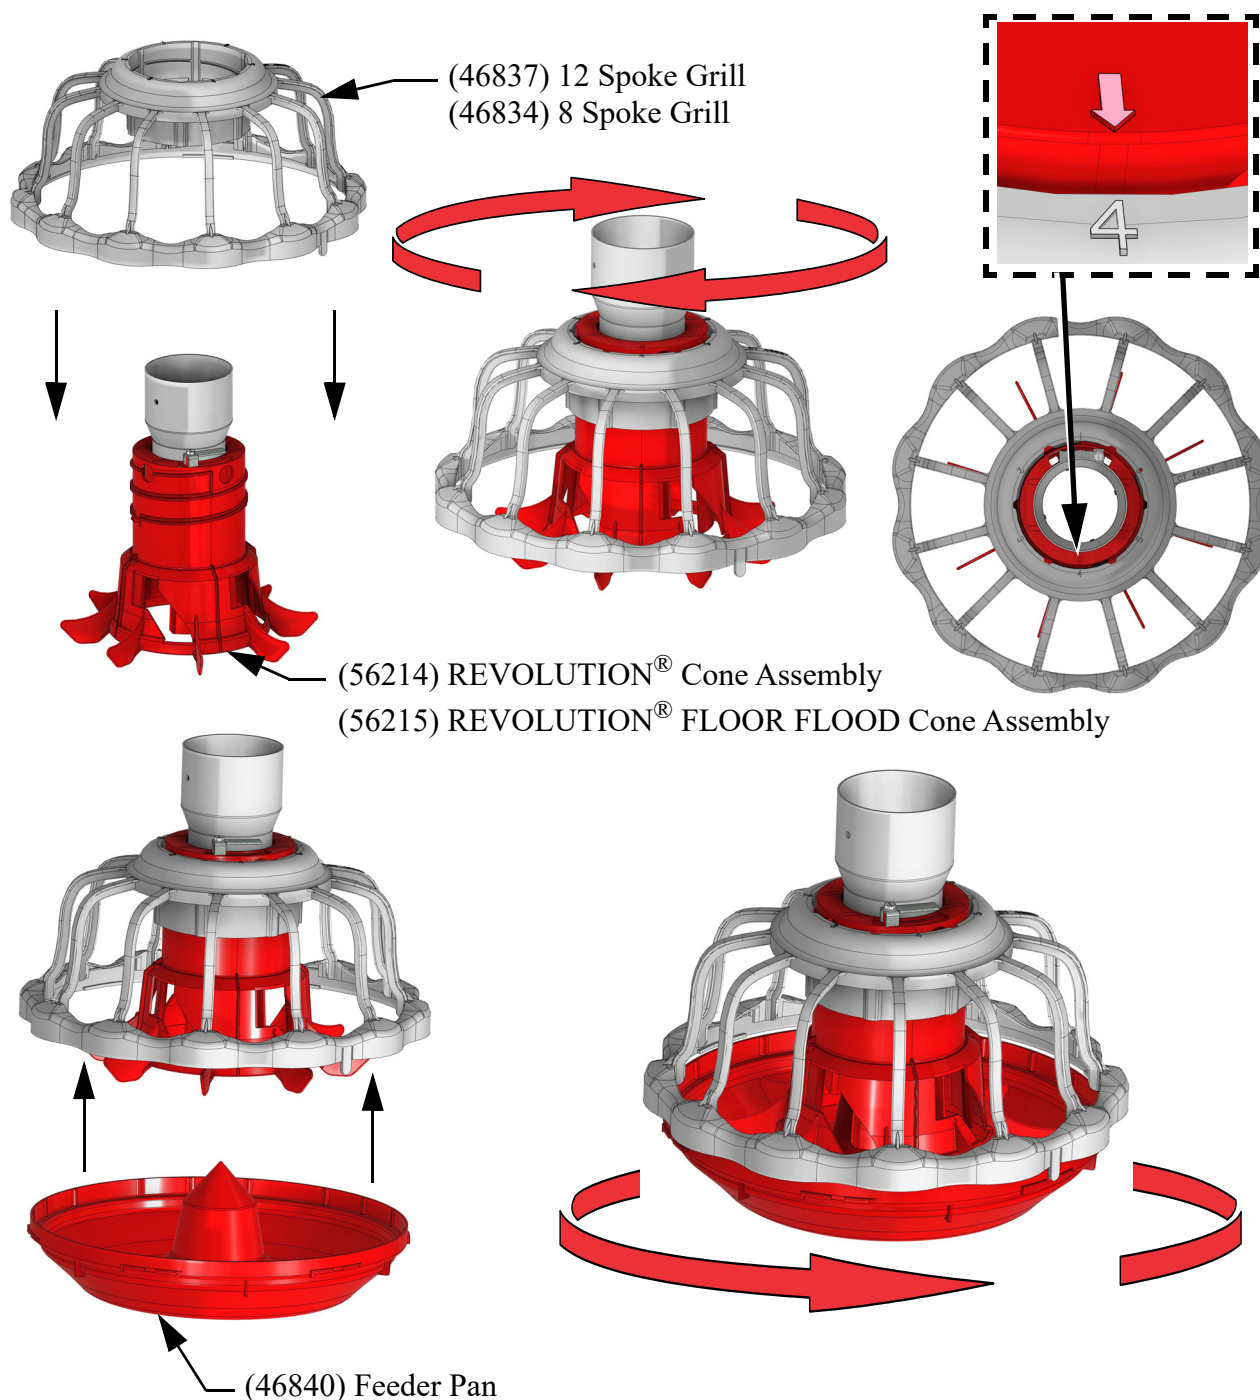

Figure 7. REVOLUTION, & REVOLUTION FLOOR FLOOD 8 and 12 Feeder Assembly
1. Set the Grill (46837 or 46834) on the Cone Assembly (56214) and Rotate the Grill until it reaches Position 4. (See Figure 7.).